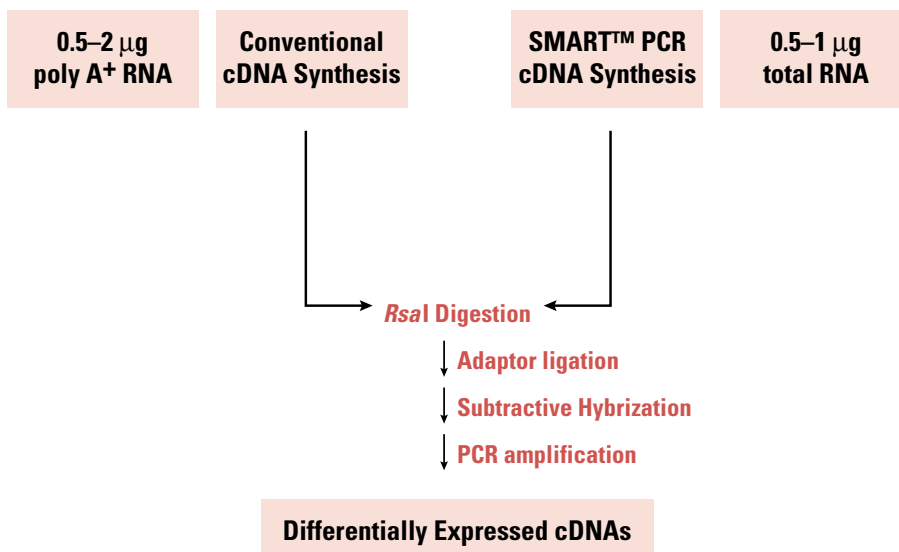

Figure 1. PCR-Select (SSH) cDNA Subtraction.
BD Biosciences Clontech offers three reporter detection kits for quickly and easily determining reporter expression. The **Great EscAPE™ SEAP Chemiluminescence and Fluorescence Detection Kits** provide simple, nonradioactive methods for detecting SEAP (secreted alkaline phosphatase) activity. The **Luciferase Reporter Assay Kit** lets you quickly quantify luciferase activity using a firefly luciferase substrate. These kits are perfect companions for our Mercury Pathway Profiling SEAP or Luciferase Systems to monitor the activation of signal transduction pathways (Figure 1). We also offer the **Great EscAPE™ SEAP Reporter System 3** for using SEAP in a wide range of reporter-based assays.
**Figure 1. Measuring reporter activity is a key component to investigating signal transduction pathways using the Mercury™ product line.** Colored boxes indicate Mercury products compatible with our SEAP and/or Luciferase Detection Kits.
The Mercury Pathway Profiling Systems let you assess the activation of signal transduction pathways *in vivo* (Figure 1). These systems are sets of vectors that each contain a distinct *cis*-acting DNA consensus element upstream of a reporter gene. Depending on the pathway profiling system you choose, the reporter gene may encode SEAP or luciferase. Expression of the reporter gene means that a transactivator, or transcription factor, present in the cell has bound the enhancer element in the Mercury Vector, indicating that a particular signaling pathway has been activated. Mercury Pathway Profiling Systems are designed for both broad-spectrum and specific profiling. Many Mercury Vectors are also available separately.
Our new Mercury™ TransFactor Kits (Figure 1) are the perfect match to both the Mercury Profiling Kits and the Great EscAPe SEAP Reporter Assay. These kits profile DNA-transcription factor interactions.
Figure 1 depicts an overview of the PCR-Select method. cDNA is synthesized using a conventional method, or by the SMART cDNA synthesis method when the available quantity of RNA is limited. The cDNA is cut into shorter fragments and two types of adaptors are ligated to the tester cDNA from two pools of tester cDNA in order to increase subtractive efficiency. After adaptor ligation, two rounds of hybridization are performed. Finally, two rounds of PCR are performed to selectively amplify differentially expressed sequences.
The foundation of our Premium RNA and Premium Reserve RNA is highly purified total and poly A+ RNA. Each Total RNA sample is meticulously prepared using a modified guanidinium thiocyanate method, and each Poly A+ RNA sample is enriched for mRNA transcripts with three rounds of oligo(dT)-cellulose purification. We perform rigorous quality control tests to confirm that each preparation consists of intact, full-length RNA with virtually no genomic DNA. Figure 1 demonstrates that a wide variety of genes are easily amplified by RT-PCR from Human Placenta Total RNA (#64024-1).
**Figure 1. RT-PCR using Human Placenta Total RNA demonstrates that a wide variety of genes are easily amplified.** Our TITANIUM™ One-Step RT-PCR Kit (#K1403-1, -2) was used to amplify cDNA from 1 µg of Human Placenta Total RNA (#6518-1). RT-PCR products were analyzed via agarose/EtBr gel electrophoresis. Nine different human transcripts were amplified. Lane M: DNA size marker.